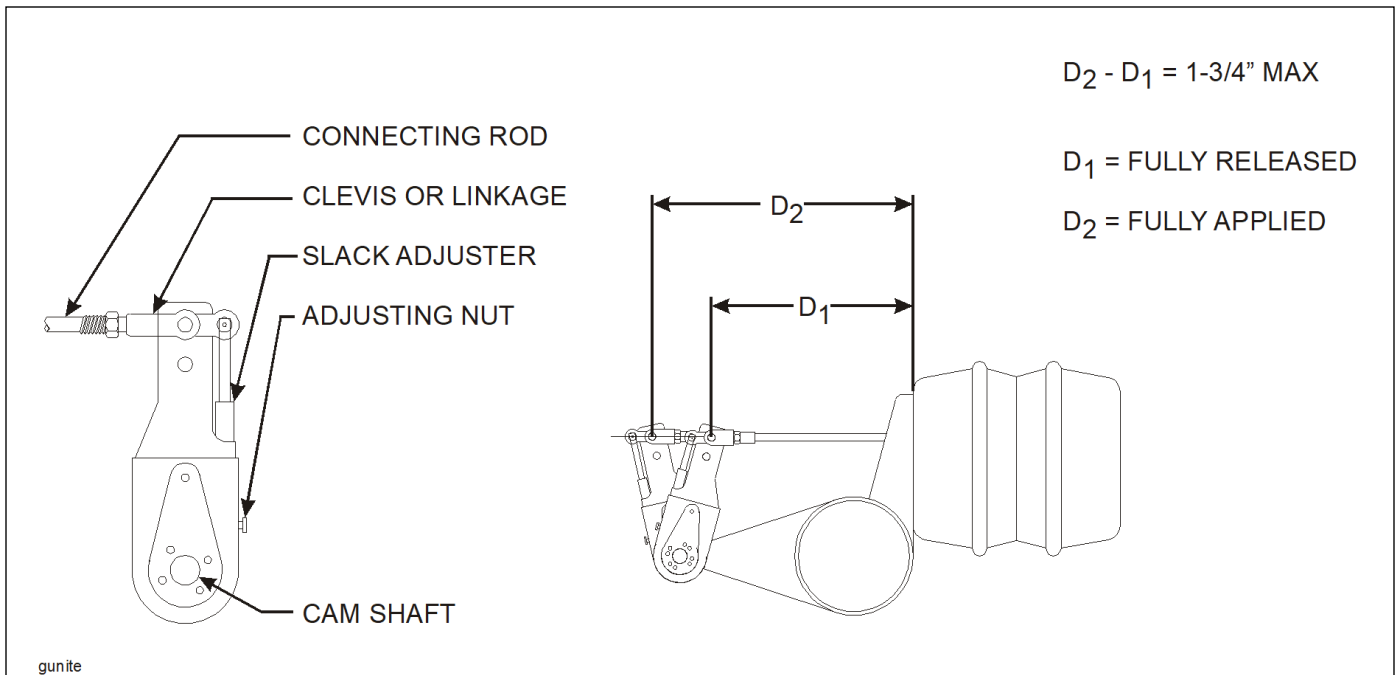

Figure 4-14: Checking Brake Adjustment
4. Remount the brake chamber on the axle brackets and reconnect the air service hoses and the slack adjuster connecting rod (See Figure 4-14.)
2. Measure the distance (D1) from the face of the brake air chamber to the center of the slack adjuster linkage pin (**See Figure 4-14.**)
7. Place a 9/16" box end or socket wrench on the slack adjuster adjusting nut (**See Figure 4-14**), and push in on the locking sleeve.